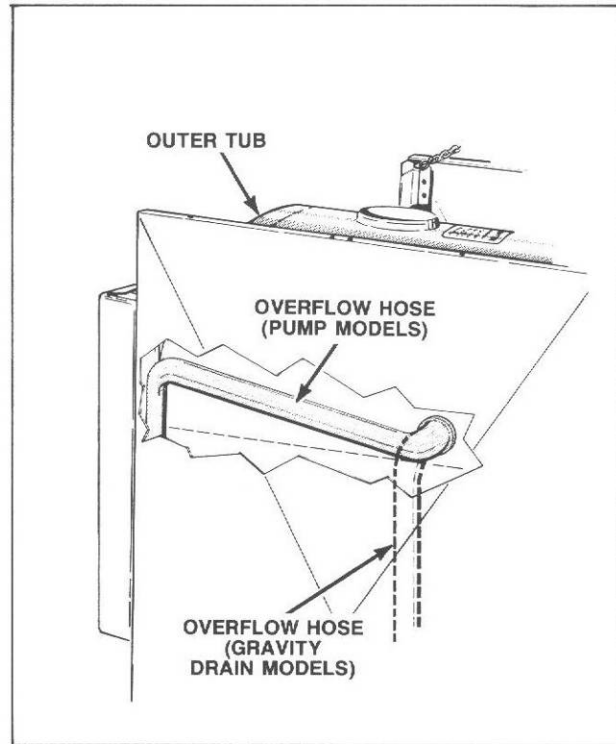

Figure 26
- f. Disconnect overflow hose from outer tub, *Figure 26*. Do not chip porcelain tub.
**IMPORTANT:** When reinstalling overflow hose (pump models), run hose on incline toward front of washer. See *Figure 26*.